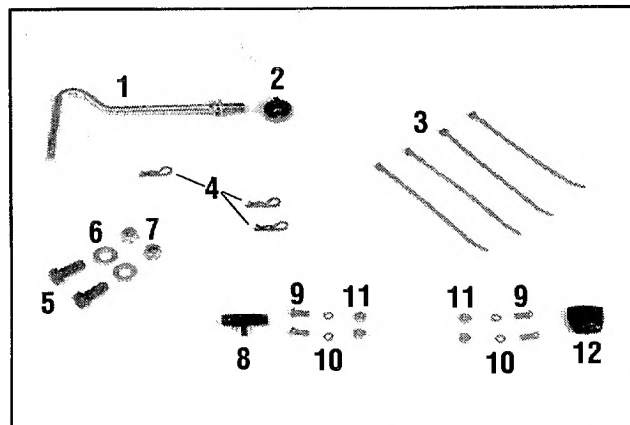

Figure 2-2: Loose hardware (see parts list).
3. A plastic bag inside the literature envelope contains loose hardware. Open the bag and check the contents against the following list and Figure 2-2.